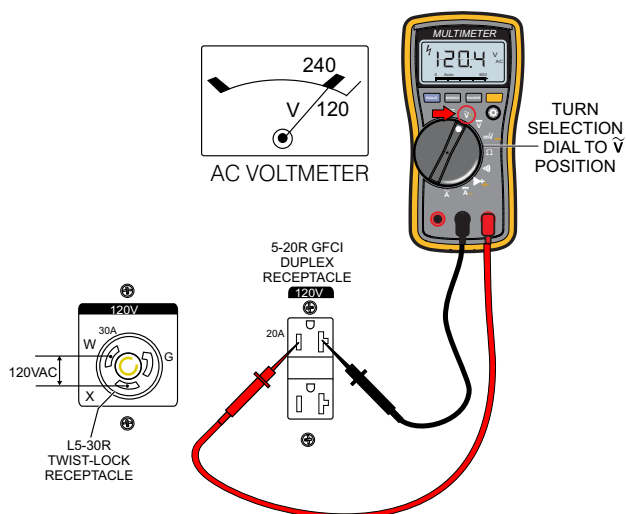

Figure 28. 120V L5-30R/5-20R GFCI Receptacles
13. Read voltmeter on front panel of generator (Figure 28) and verify that 120 VAC is displayed. Using an external voltmeter as shown in Figure 28, verify that 120 VAC is present at the 120V twist-lock and GFCI duplex receptacles.